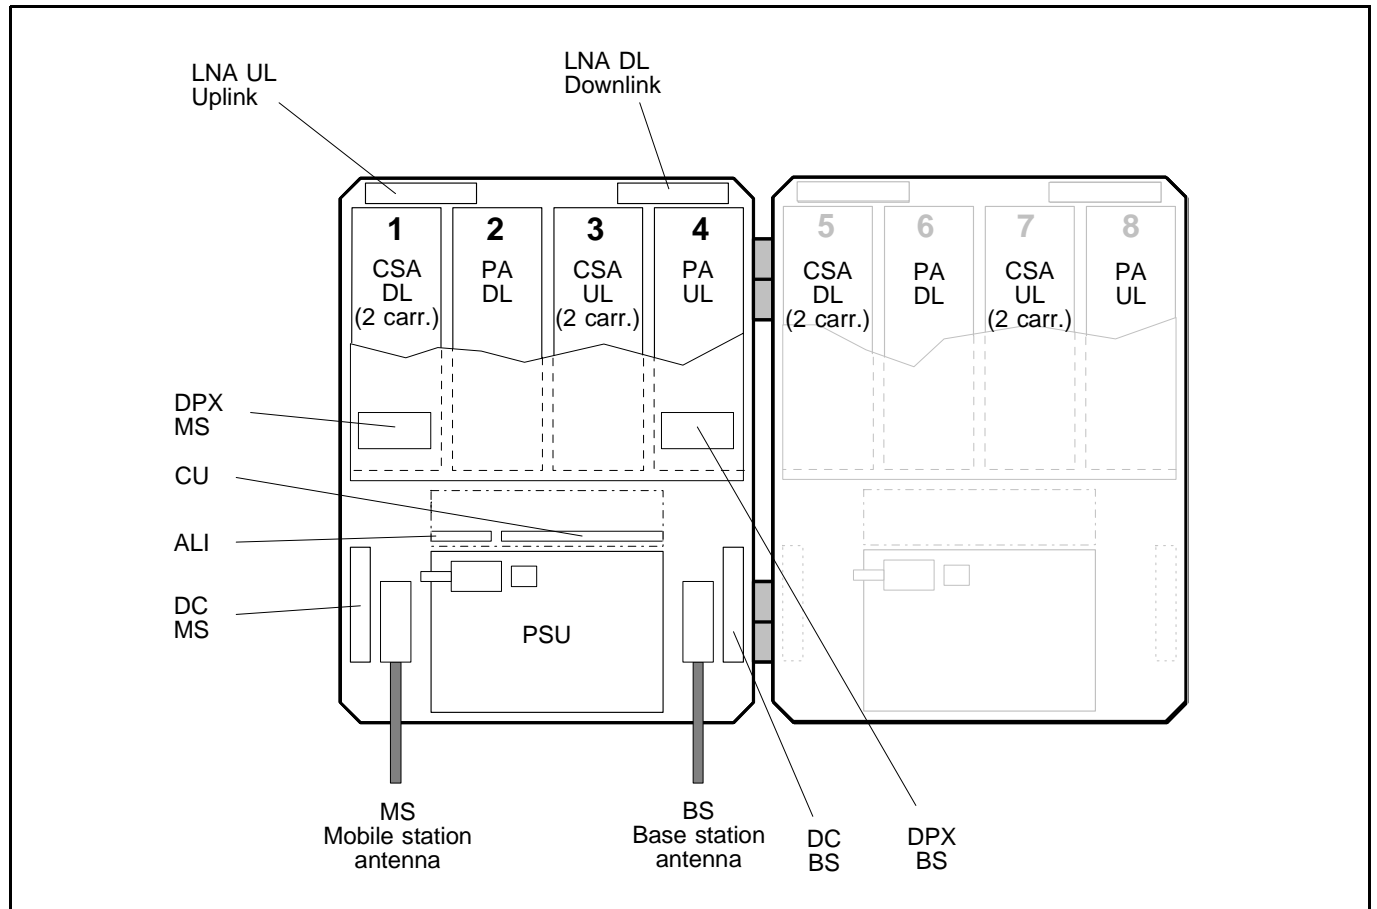

Figure 5-2. Channel selective CDMA repeater
A cabinet (the left part in Figure 5-2) for a channel selective CDMA repeater can be equipped with two pair of CSA and PA boards, one pair for downlink (DL) and one pair for uplink (UL). The described cabinet has a capacity of two bi-directional CDMA carriers.
The cover (the right part in Figure 5-2) can be equipped as well. The cover board positions are shown in the figure.